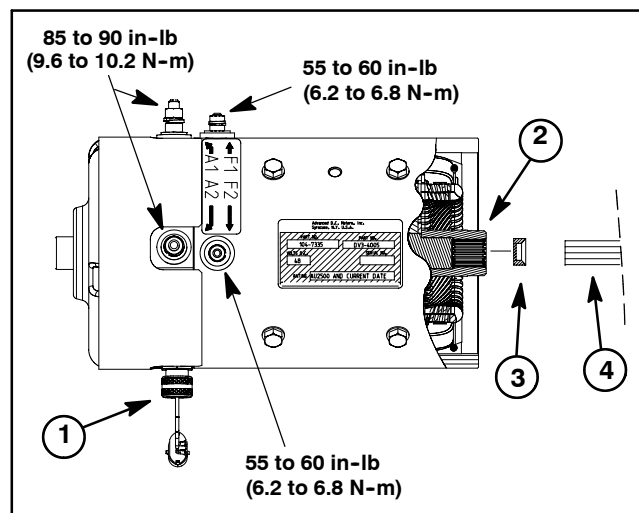

Figure 51
4. Disconnect wires from traction motor (Fig. 51):
1. If removed, install two (2) roll pins into motor shaft.
2. Make sure that rubber damper is installed into the motor shaft internal spline with the damper flat side toward the motor (Fig. 51).
6. Connect wires to traction motor (Fig. 51):